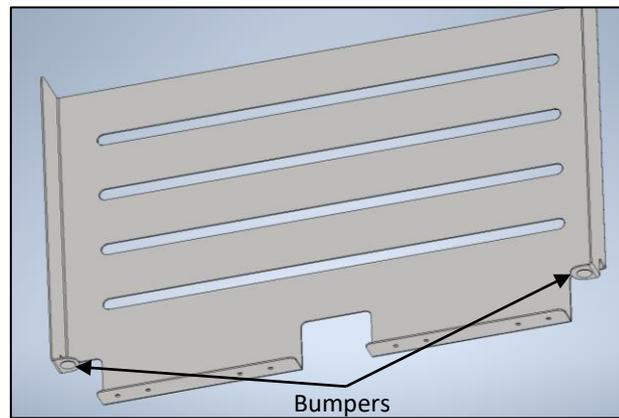

Figure 1
1. Remove the peel strip from the face of the rubber bumper provided, then place the bumper on the bottom of the slat wall tabs (Figure 1)
1. Slide tabs on the end of the accessory being attached into the slot on the wall (Figure 1)